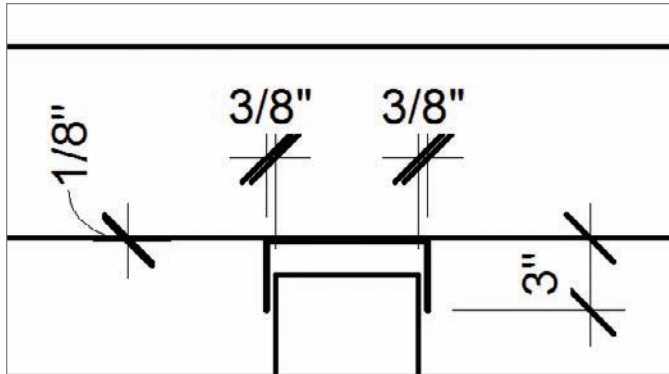

FIGURE 12.68 The top track is now in place.
12. Delete the 3” horizontal line. Your detail should now look like Figure 12.68.